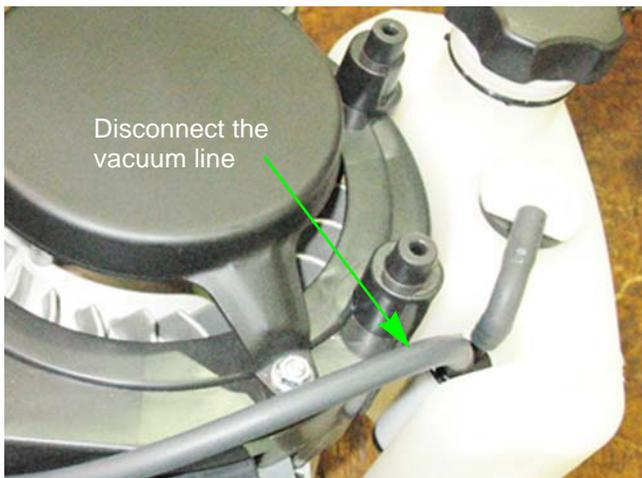

Figure 4.9
3. Disconnect the vacuum line that runs from the charcoal canister to the carburetor insulator. See Figure 4.9.